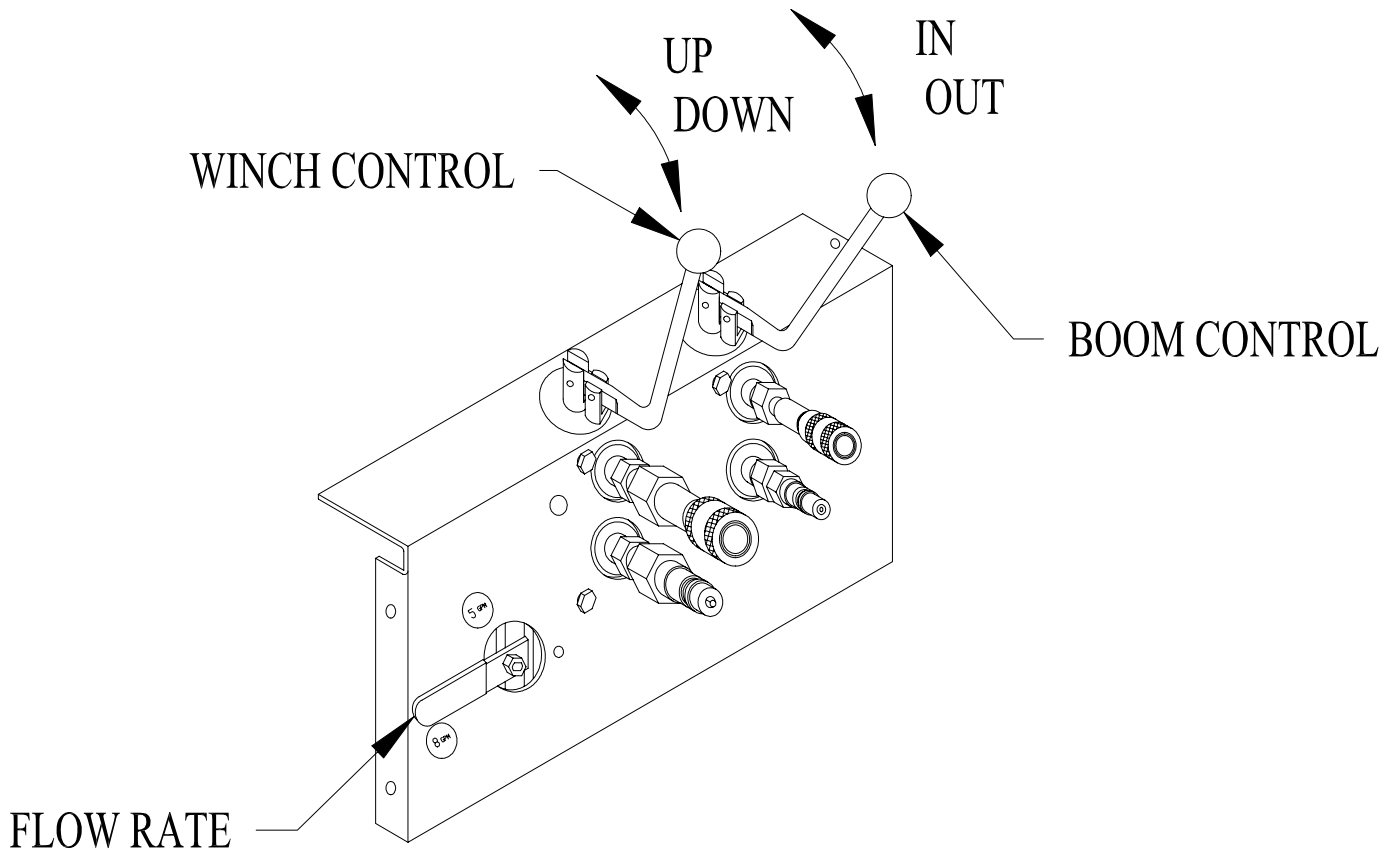

Figure 4-1.
1. The 5/8 lever provides an output of either 5 or 8 GPM. See Figure 4-1. This selection allows the hydraulic winch to operate at two different speed ranges. Within these ranges, engine speed can be varied to further adjust hoisting speeds. Speeds vary to about 165 fpm with a single part of line. A speed of up to 80 fpm occurs when using the HS2000 with two parts of line. As wire rope is wound onto the drum, the effective drum diameter increases which increases lifting speed and decreases lifting capacity.
- 5. Pull winch control lever up to raise a load and down to lower a load. See Figure 4-1. Never allow anybody to ride on the hoist. Make a few “dry runs” (without load, but **with** ballast) to become familiar with operation, controls, and HydraPak, and to test hoisting clearance. Always maintain 10-20 pounds of wire rope tension with a cable weight. Do NOT attempt to make any equipment adjustments during operation.
7. Use the boom control lever shown in Figure 4-1 to swing the boom 135° to load or unload material on the roof deck where you are working.